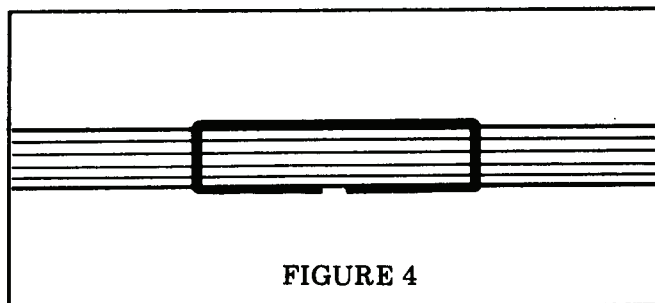

FIGURE 4
5. Close wire feed gears. Operate the stitcher under motor power, driving several stitches into material of the same thickness as the work to be stitched. Examine resulting stitches to determine if the correct amount of wire is being used (figure 4 shows what the stitch should look like).